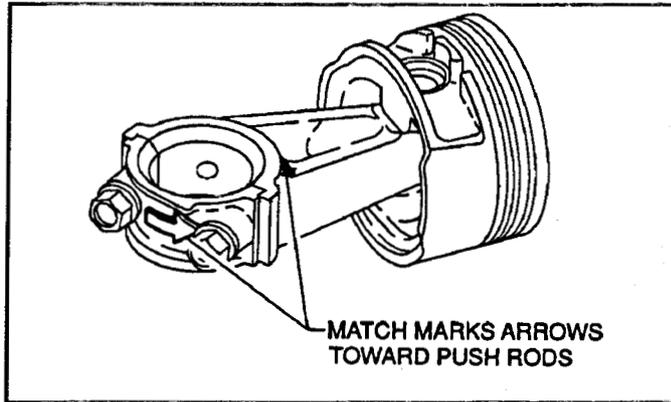

Figure 72
1. Note the orientation of the piston and connecting rod prior to removal for proper reinstallation. There are matching arrows on the connecting rod and rod cap that point toward the push rods on assembly. See Figure 72. The word "Mag" is also written on the side of the connecting rod that should point toward the magneto side of the engine.